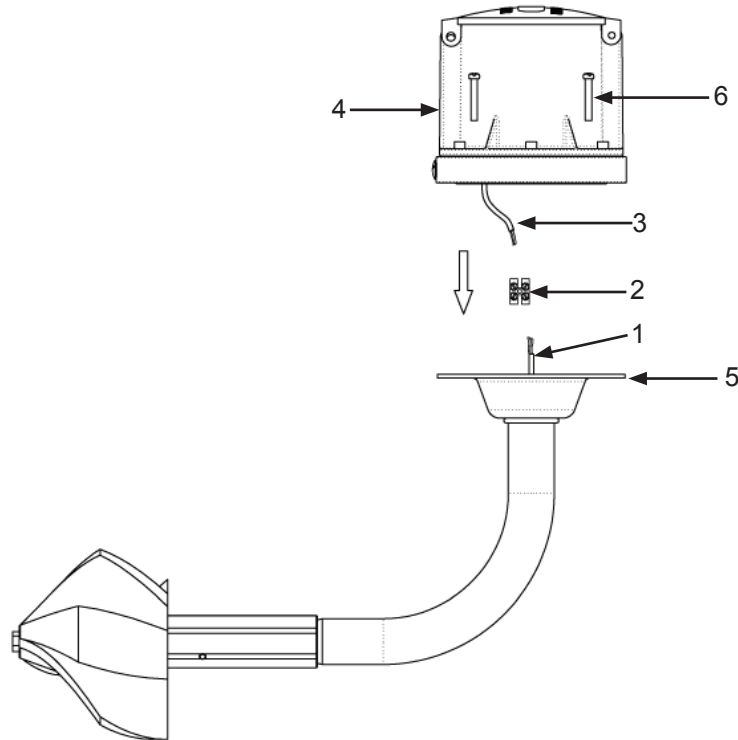

Figure 12 FlowCom To Base Plate Assembly
Step 7. Connect the sensor wire (1) to the inline terminal block (2). Connect the cable from the FlowCom (3) to the inline terminal block matching the the red wire to the sensor cable red wire, and the black wire to the sensor cable black wire. The attach the FlowCom (4) onto the mounting plate (5) with the provided screws(6). See Figure 12. Note: If using existing sensor, make sure the shield wire and common (black) are not connected.